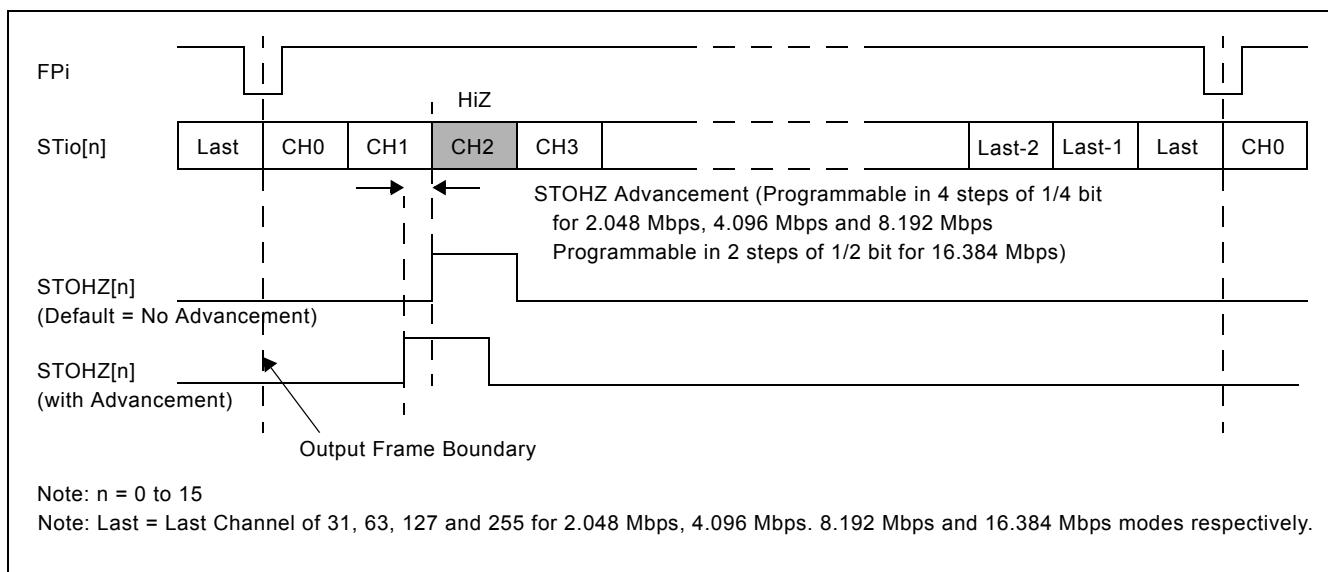

Figure 16 - Channel Switching External High Impedance Control Timing
There are 16 external high impedance control signals, STOHZ0 - 15, that are used to control the external drivers for per-channel high impedance operations. Only the first sixteen ST-BUS/GCI-Bus (STIo0 - 15) outputs are provided with corresponding STOHZ signals. The STOHZ outputs deliver the appropriate number of control timeslot channels based on the output stream data rate. Each control timeslot lasts for one channel time. When the ODE pin is high and the OSB (bit 2) of the Control Register (CR) is also high, STOHZ0 - 15 are enabled. When the ODE pin, OSB (bit 2) of the Control Register (CR) or the RESET pin is low, STOHZ0 - 15 are driven high, together with all the ST-BUS/GCI-Bus outputs being tristated. Under normal operation, the corresponding STOHZ outputs of any unused ST-BUS/GCI-Bus channel (high impedance) are driven high. Refer to Figure 16 on page 28 for a diagrammatical explanation.